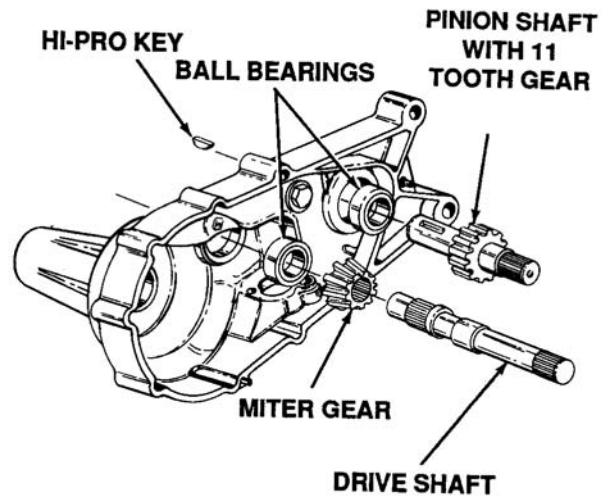

Figure 6-39. Pinion Shaft With 11 Tooth Gear Removal
- Remove pinion shaft with 11 tooth gears, first remove the hi-pro key from shaft. Then pull gear and shaft out of housing. See Figure 6-39. Inspect gear teeth for any damage and inspect shaft for any damage on splines. Replace if necessary.